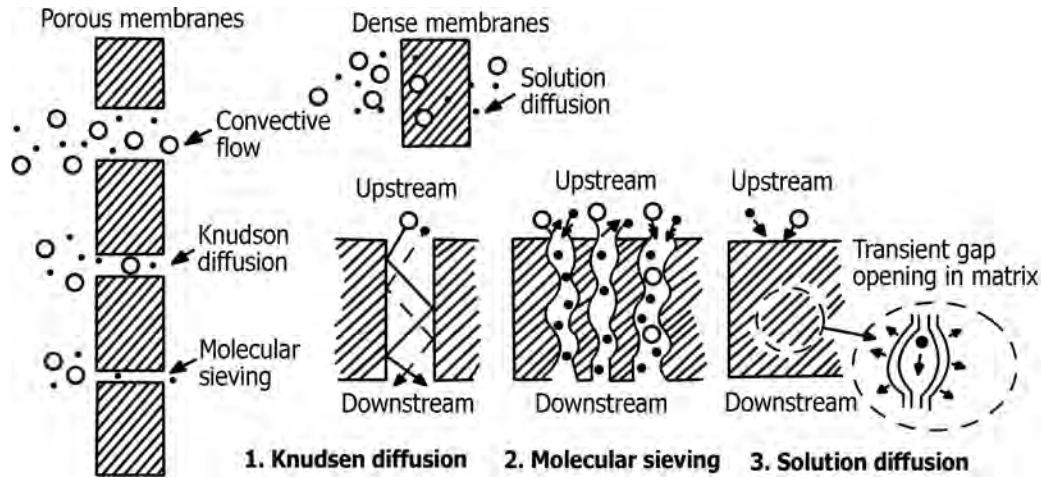

FIGURE 18.62 General transport mechanisms for gas permeation through porous and dense gas separation membranes.
- Figure 18.62 illustrates the three mechanisms.